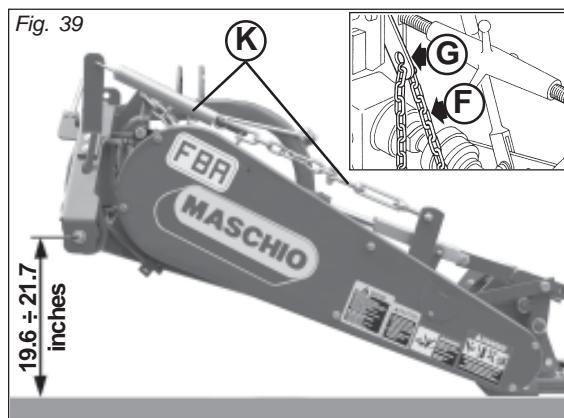

Fig. 39
- Connect one end of the chain (F, Fig. 39) to the mower using the supplied pin and the other end to a stationary point on the tractor. Adjust the height of the mower to the ground (19.6 to 21.7 inches, Fig. 39) by moving the rings of the chain (F, Fig. 39) in the hole on the plate (G, Fig. 39). When the lifter is lowered, this precaution will constantly hold the mower at the same height from ground level. Also, check that the inner skid is still touching the ground and adjust the spring (K, Fig. 39) if necessary.